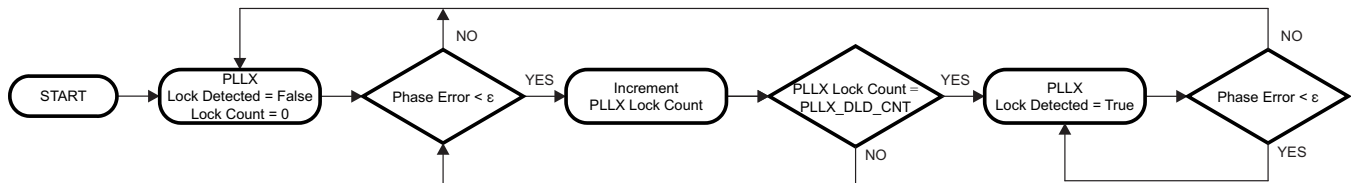

Figure 8. Digital Lock Detect Flowchart
Both PLL1 and PLL2 support digital lock detect. Digital lock detect compares the phase between the reference path (R) and the feedback path (N) of the PLL. When the time error (and therefore the phase error) between the two signals is less than a window size (ϵ) specified by PLL1_WND_SIZE and PLL2_WND_SIZE, a lock detect count increments. When the lock detect count reaches a user specified value, PLL1_DLD_CNT or PLL2_DLD_CNT, lock detect is asserted true. Once digital lock detect is true, a single phase comparison outside the specified window will cause digital lock detect to be asserted false. This is illustrated in Figure 8.